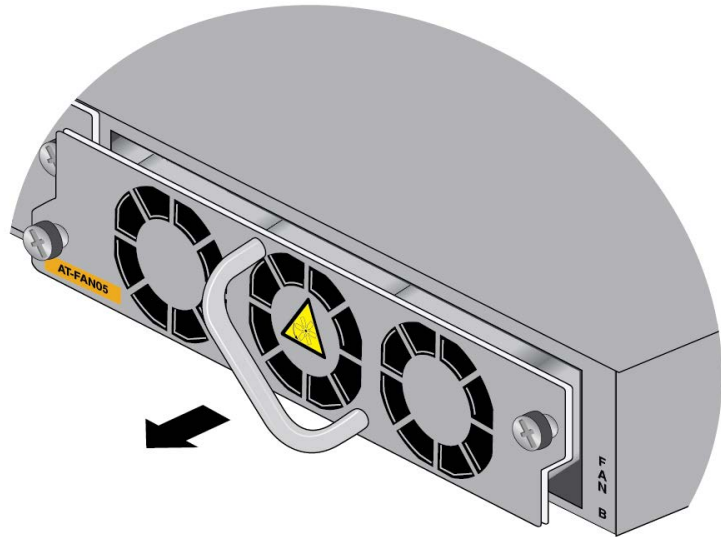

Figure 141. Disconnecting the Fan Module from the Switch
2. Carefully pull on the handle to disconnect the line card from the internal connector in the switch. Refer to Figure 141.